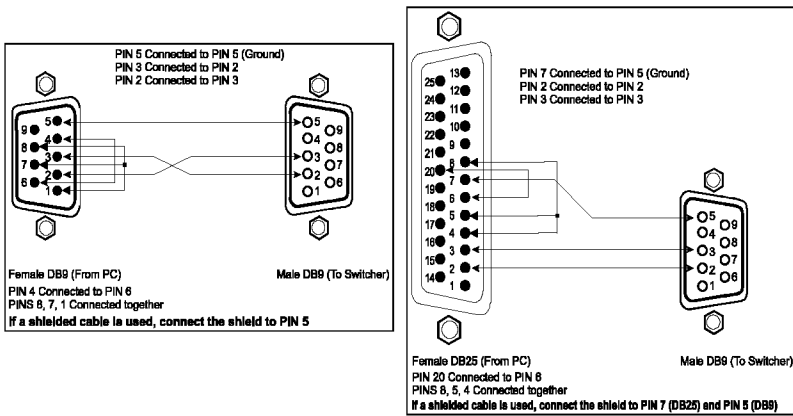

Figure 5: Connecting a PC without using a Null-modem Adapter
- Connect the RS-232 DB9 port on your PC to the RS-232 DB9 rear panel port on the Master **VS-81ETH** unit, as Figure 5 illustrates (depending on whether the PC has a 9-pin or 25-pin connector)